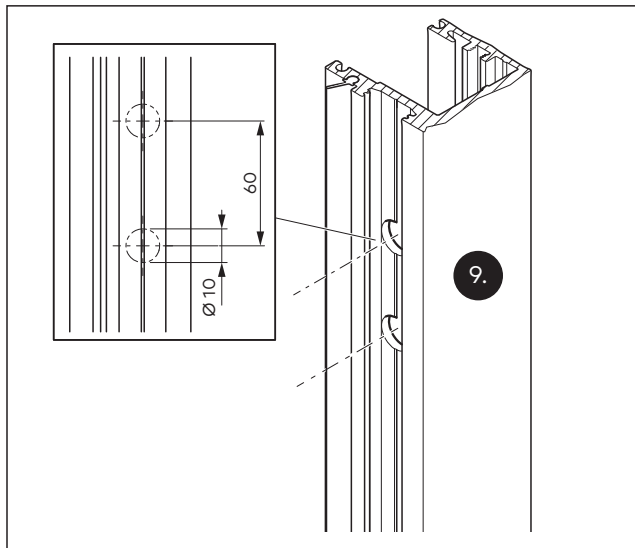

Abb. 11 Increasing the size of the pre-drilled holes for the UNIQVIN electromodule on the opposite side
9. Increase the size of the drill holes on the opposite side to a diameter of 10 mm and deburr them (Abb. 11).